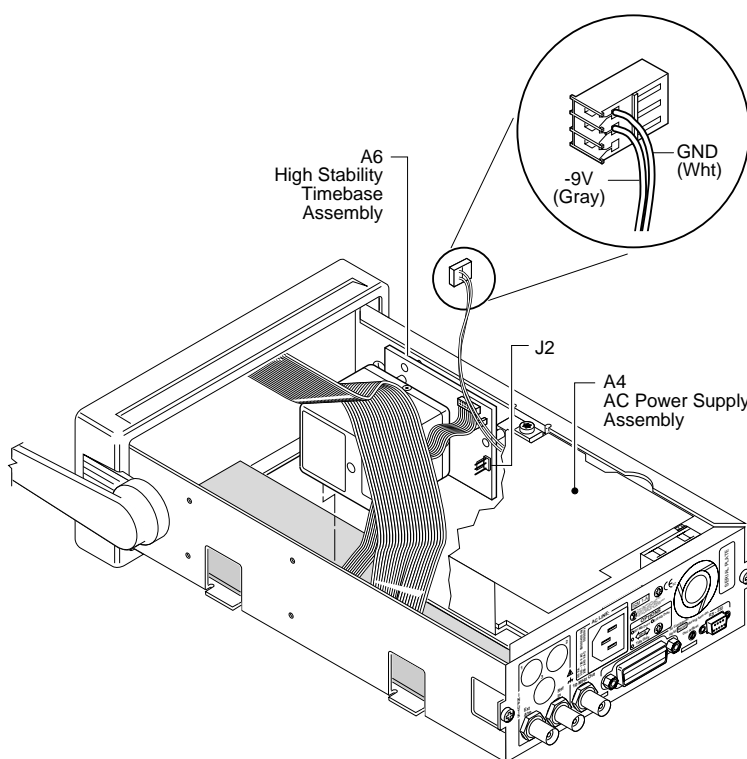

Figure 2-10. A4 AC Power Supply -9V Output Check (Option 010/012 Only)
- a. Disconnect the power supply's two-wire cable from J2 of A6 High Stability Timebase Assembly as shown in Figure 2-10.**
- b. **Connect the negative lead of a voltmeter to the white wire connection (GND) on the connector of the two-wire cable, and connect the positive lead to the gray wire connection (-9V) as shown in Figure 2-10.**